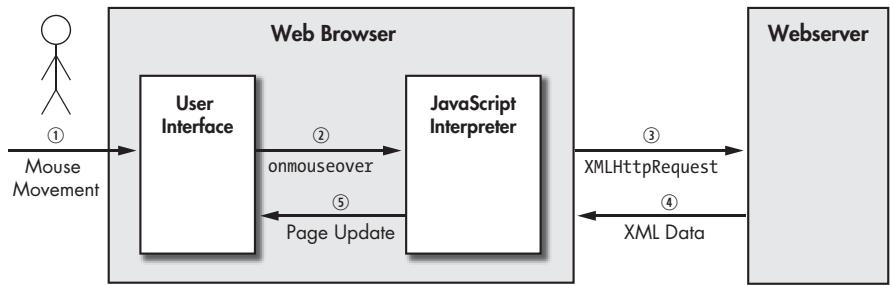

Figure 8-7: Typical Ajax sequence.
Figure 8-7 shows an example of how the Ajax communication mechanism works. The exchange in this figure is initiated when the user mouses over an active element on the web page at event ①. An `onmouseover` action is triggered and JavaScript code is executed in the web browser at event ②. The JavaScript code creates an `XMLHttpRequest` object with the URL of the server-side script and a JavaScript callback function, and the web browser then sends the `XMLHttpRequest` object to the server at event ③. On the server side, the particular script identified by the URL responds with XML data at event ④. The browser then receives the XML data and invokes the JavaScript callback function at event ⑤, which updates the portion of the web page that was affected by the mouse movement.